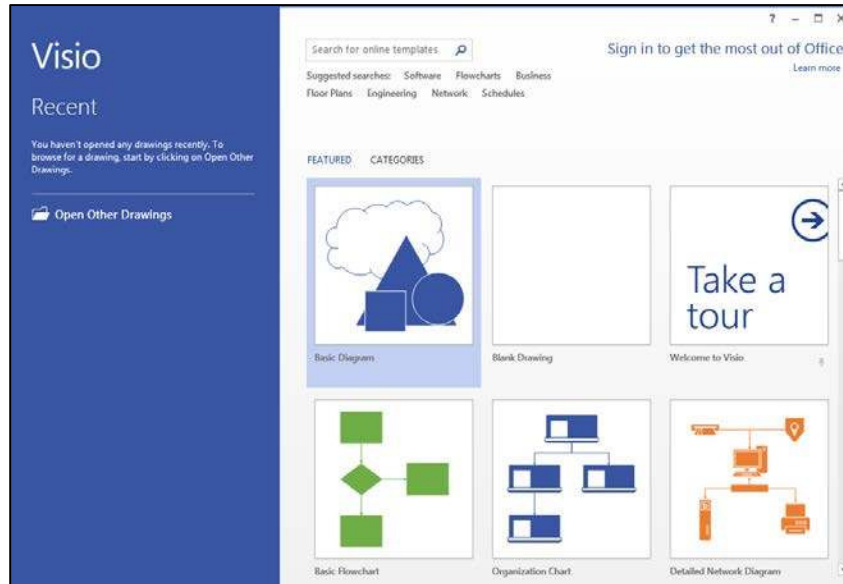

Figure 2 – Visio 2013 Start Screen
1. Click the **Start** button, click **All Programs**, click **Microsoft Office 2013**, and then click **Visio 2013**. The **Start** screen appears (see Figure 2).